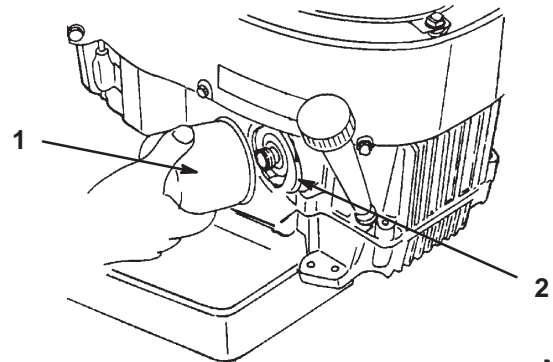

Figure 23
2. Remove the old filter (Fig. 23).
3. Apply a thin coat of new oil to the rubber gasket on the replacement filter (Fig. 23).
4. Install the replacement oil filter to the filter adapter. Turn the oil filter clockwise until the rubber gasket contacts the filter adapter, then tighten the filter an additional 3/4 turn (Fig. 23).